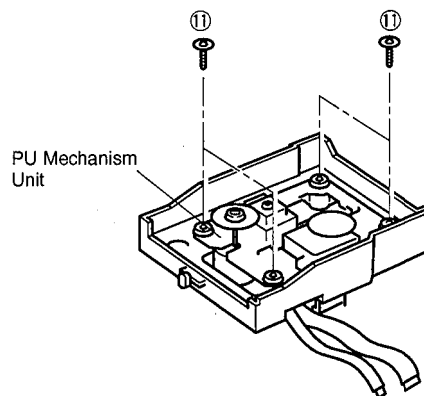

Fig. 6
- Pull out 4 Pins (⑪) and then remove the PU Mechanism Unit as shown in Fig. 6.